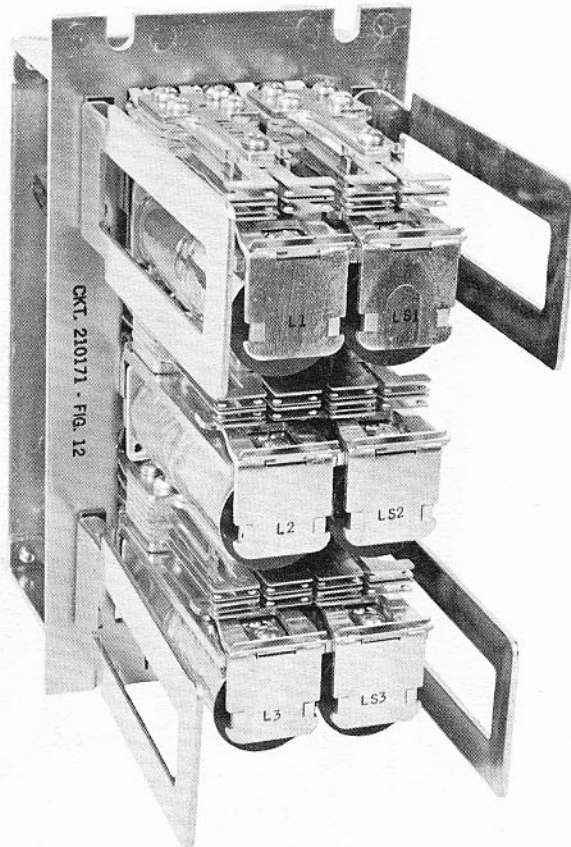

Figure 1-15.
O. K208A Key Telephone Unit (see Figure 1-15)